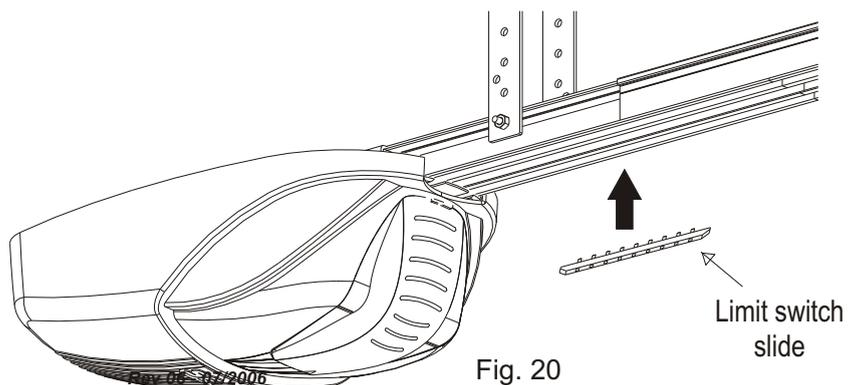
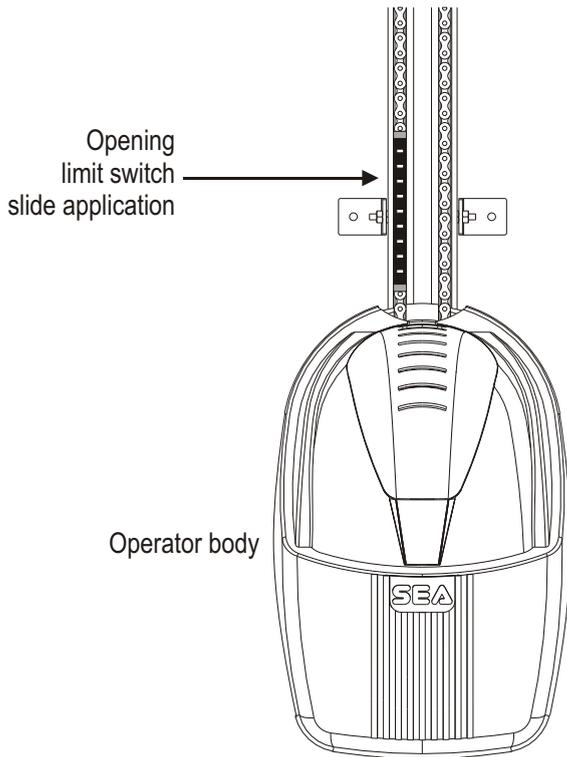
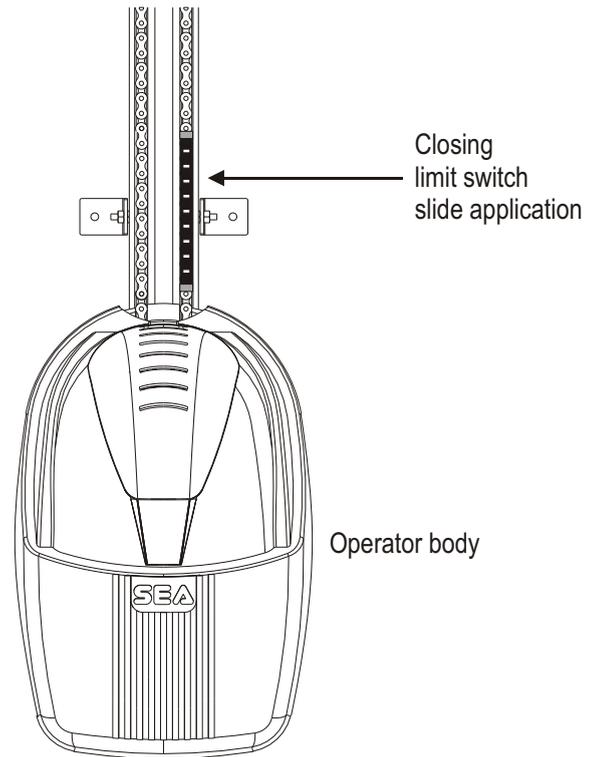

Fig. 20
Fig. 21a
Fig. 21b
- fix the limit switch slide (Fig. 20) as near as possible to the operator body near the switch wheel as shown in Fig. 21a
- fix the limit switch slide (Fig. 20) as near as possible to the operator body near the switch wheel as shown in Fig. 21b